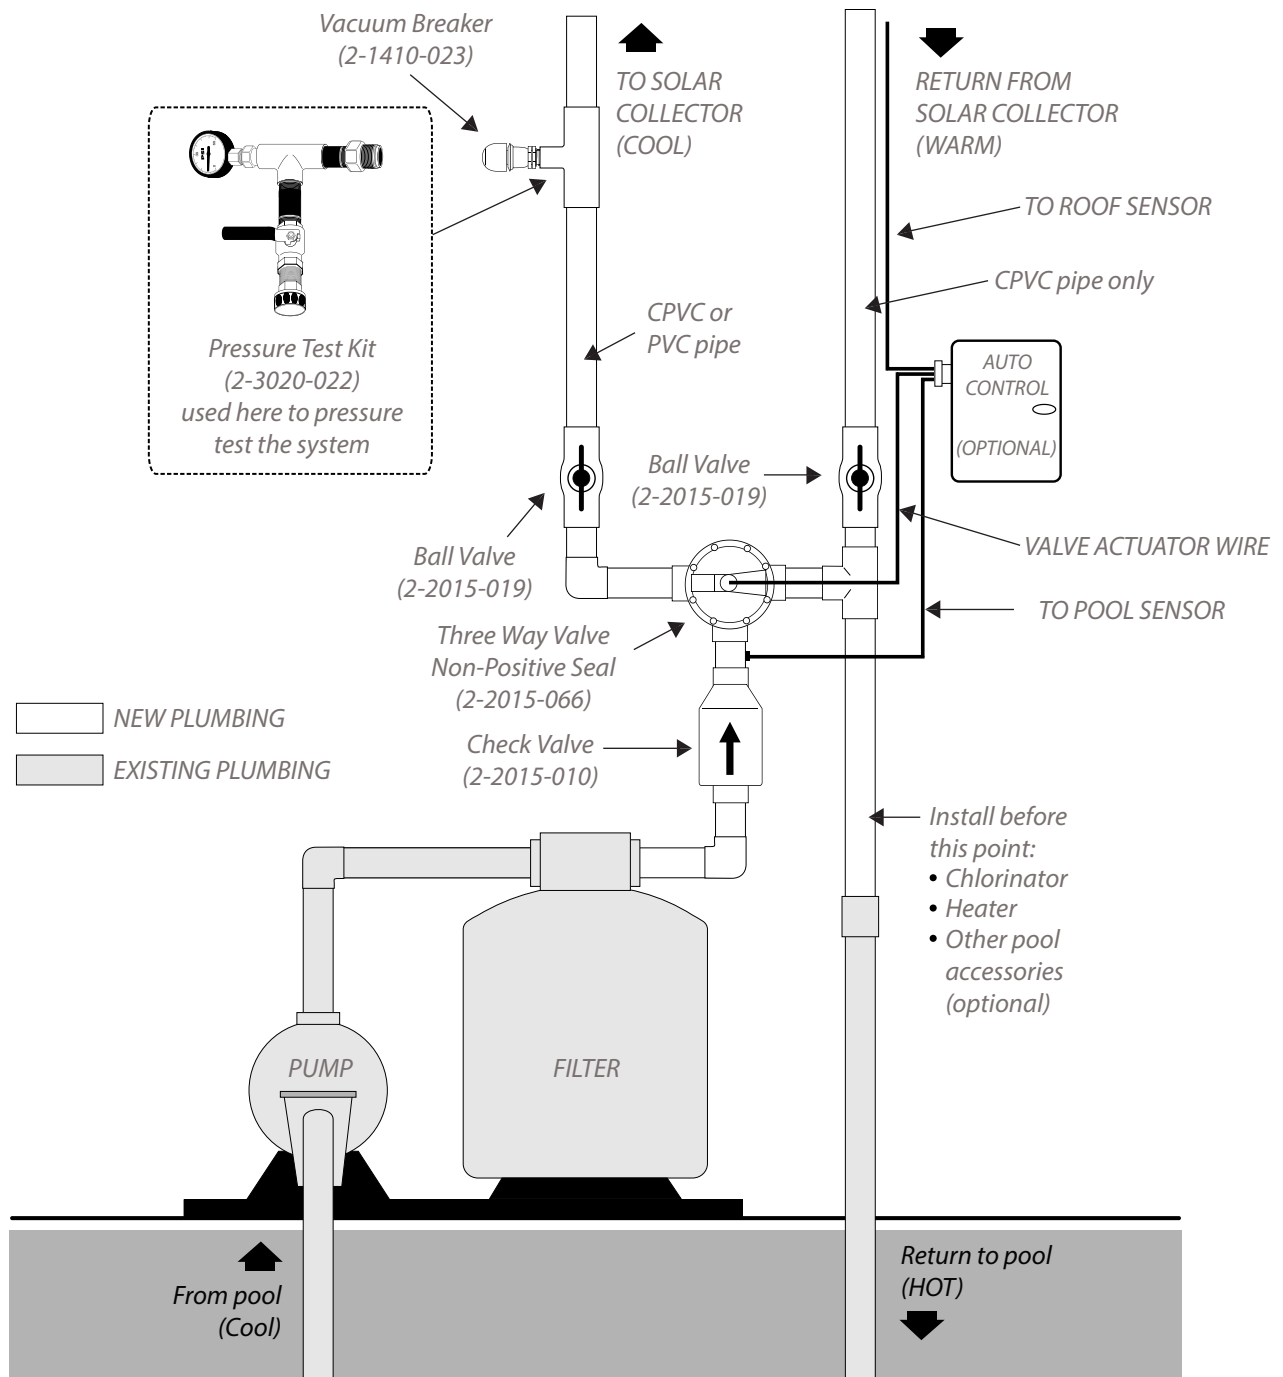

Fig. 13.1
2. Determine where the feed and return pipe will go over the edge of the roof. If possible, this should be perpendicular to the exact points where they will fasten into the existing system or into pipes coming from another location (see Fig. 13.1, page. 24).
Fig. 13.1 on page 25 shows how a typical eco-SPARK solar pool heating system is plumbed into existing pool plumbing. This drawing may not be just like every system you encounter; the feed and return plumbing on a solar system may be reversed, or it may be a different type of filter, or it may have additional equipment such as a chlorinator, pool cleaner, gas heater, etc. It may also have a long run of plumbing from the pool equipment to the solar collectors.
Whether the system is like this or not, Fig. 13.1 will help you understand the flow of water from the pool, through the pump, filter, solar system, and back to the pool. Study the diagram and become familiar with the valves needed to connect the solar collectors to existing plumbing.
- 1. Study the plumbing after the filter and decide where you are going to install the check valve and the CPVC tee fitting (see Fig. 13.1). If you have auxiliary equipment, you may need to re-plumb a portion of your existing plumbing so this equipment is located after the solar system as indicated in Fig. 13.1.*
- 2. Cut the pipe after the filter where you have decided to locate the check valve and where your solar return pipe will attach to your existing pool return line. If your pool plumbing is 1-½", and you are running 2" plumbing to your solar system, you should be using 2" valves and piping for all of your new plumbing. Therefore you will need (2) 2"x1-½" reducer bushings to adapt your new 2" fittings to the existing 1-½" pipe.*
- 6. Install the (2-1410-023) vacuum breaker about 4' up the feed line and above the top of the filter using a CPVC tee and reducer bushing. Face the tee to the outside as shown in Fig. 13.1. Wrap the threads of the vacuum breaker with Teflon tape and screw it into the ¾" threaded reducer bushing.*